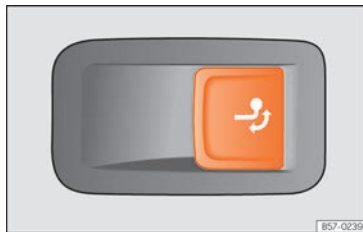

Fig. 202 On the right side of the luggage compartment: button for unlocking the tow hook.
- Pull the »» Fig. 202 button briefly. The tow hook unlocks electrically and automatically turns outwards. The button's control lamp flashes.
- Pull the »» Fig. 202 button briefly. The tow hook unlocks electrically.
- If the warning light on the button »» Fig. 202 → flashes, this means that the tow hook has not been attached properly or is damaged »» ⚠.
- If the warning lamp »» Fig. 202 → remains on with the rear lid open, the tow hook is correctly in place both when extracted and when covered.
- Never press the »» Fig. 202 button when there is a trailer hooked to the vehicle or when a carrier system or other accessories are mounted on the tow hook.